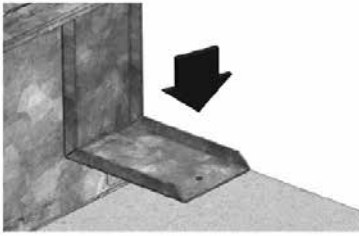

FIG.3
- 5 - The metal brackets are designed to be fastened to the floor (fig.3)